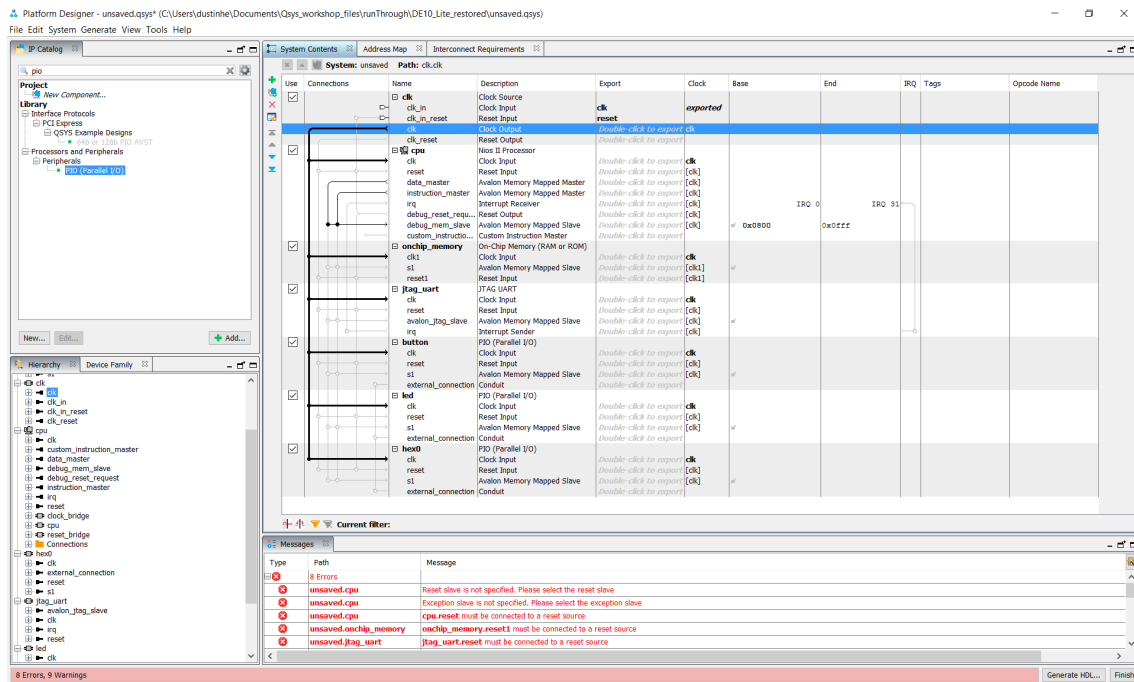

Figure 20: System Contents after Connecting the Clock
- ☐ Make connections between the `clk` component and the `clk` inputs of each of the other components by clicking on the small open circles on the lines that intersecting with the other components. You should see something like Figure 20 on the following page.